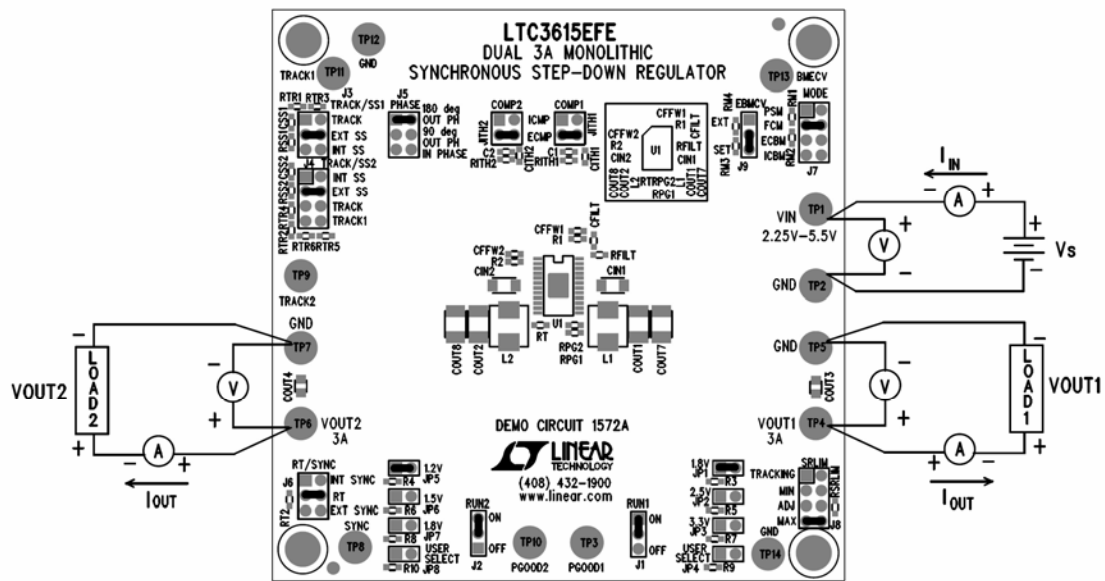

Figure 1. Proper Measurement Equipment Setup
The DC1572 is easy to set up to evaluate the performance of the LTC3615. For a proper measurement equipment configuration, set up the circuit according to the diagram in Fig. 1.
1. Connect the input power supply to the Vin and GND terminals. Connect the loads between the Vout and GND terminals. Refer to figure 1 for the proper measurement equipment setup.